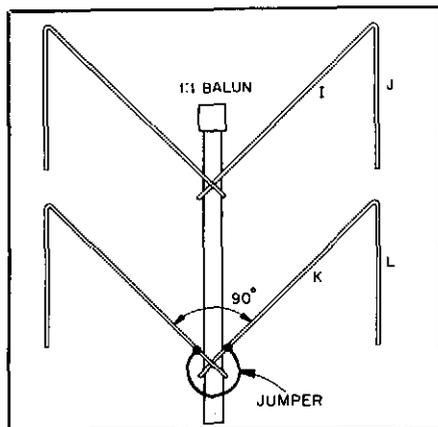

Fig 35—JG1UNE's Sigma beam. Tube sizes and lengths appear in Table 2.
□ A full-size beam antenna is great—if you have the space for one. Many of us, however, live in apartments and just don't have that space. Figs 35 through 38 describe the results of my experiments with a miniaturized beam antenna in a  $\Sigma$  (sigma) configuration. My antenna is mounted at the top of a tower, about 15 m above the building roof.
†Letters in parentheses are part identifiers as shown in Figs 35 and 38.